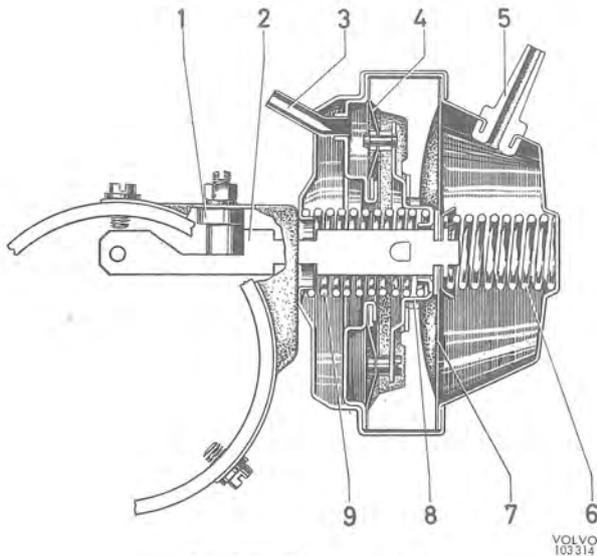

Fig. 3-49. Vacuum regulator
constructed so that during engine braking or idling it lowers the firing during the basic adjustment. When engine braking or idling takes place, the throttles in the carburetors are closed so that there is no vacuum in the connection from the carburetors (5, Fig. 3-49) so that the return spring (6) presses back the primary diaphragm (7) against the stop (8). The pull rod (2) which is secured to the primary diaphragm (7) transmits the movements in the diaphragm to the breaker plate. If the vacuum in the connection from the intake manifold (3) is sufficiently large, pull the secondary diaphragm (4) from the stop (8) and this lowers the firing during the basic adjustment.